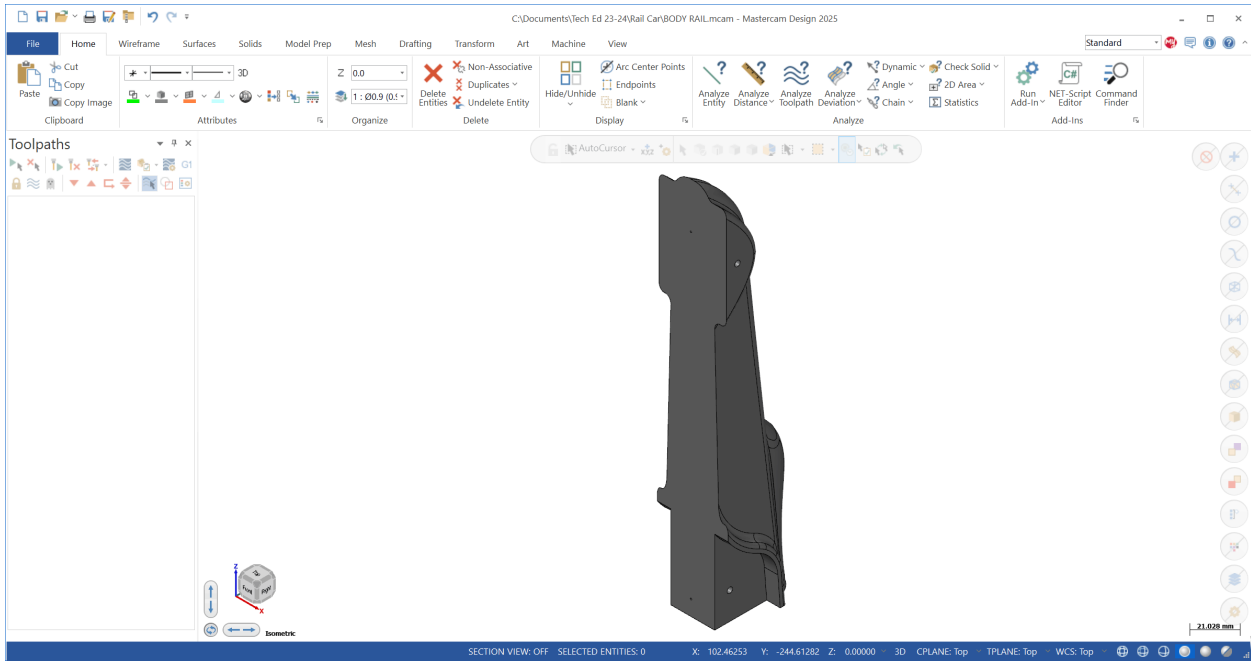

Fig. 4
Step 2. Confirm in the bottom right corner of the graphics area units are **Metric (mm)**, **Fig. 4**.